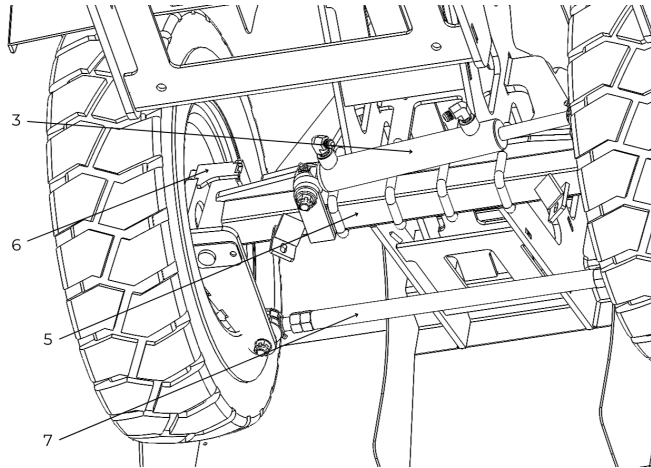

Figure 31. General Steering Inspection.
- Steering cylinder (3). (See Figure 31)
- Axle beam (5). (See Figure 31)
- Right and left knuckles (6). (See Figure 31)
- Tie rod (7). (See Figure 31)